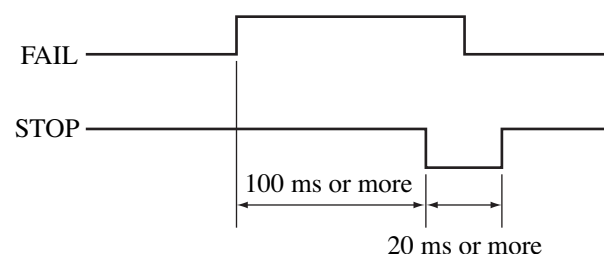

Fig. 6-4 Timing of a STOP Signal
- To cancel a FAIL state, transmit a STOP signal of at least 20 ms in duration no sooner than 100 ms after the generation of a FAIL signal, as indicated in Fig. 6-4.